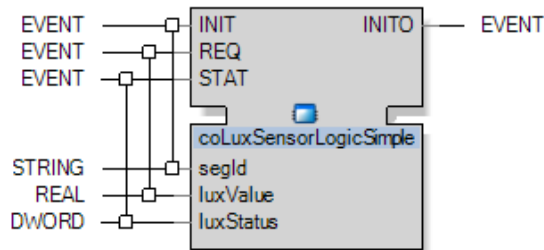

Figure 11: Simple sensor core block
- A simple sensor core block connects a single sensor and distribute its value to the room segment. Figure 11 shows the interface of a simple sensor. Only the sensor value, sensor state and segment ID has to be provided.